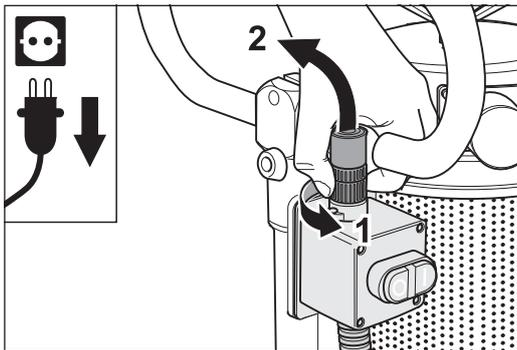

Fig. 63 Loosen the ring nut (1) and remove the cable plug from the switch (2).
- 3 Loosen the cable plug of the sensor on the on/off switch by turning the ring nut **counterclockwise** (fig. 63, 1) and pull the cable plug off (fig. 63, 2).